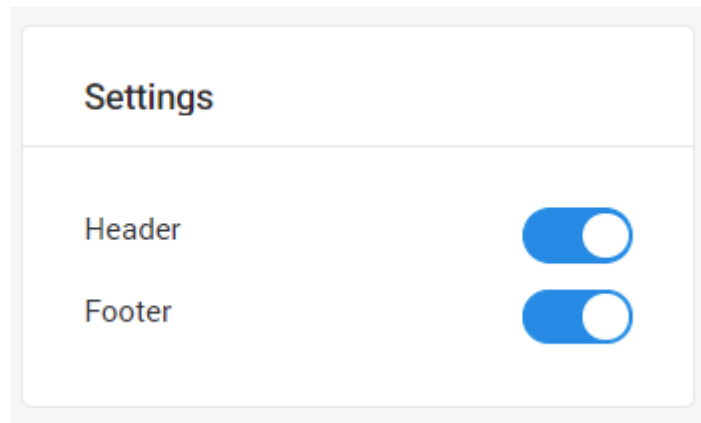

FIGURE 9 - SETTINGS
- a. Here you can set the trigger mode, frequency and intervals between automatic report generation. **(Figure 9)**
When in **Design Page Layout** mode, it is possible to resize and edit the header and footer of the report. Initially this is applied to all pages in the report (and any subsequently added pages). This can be overridden per page by using the **Settings** options on the right ribbon (Figure 9).